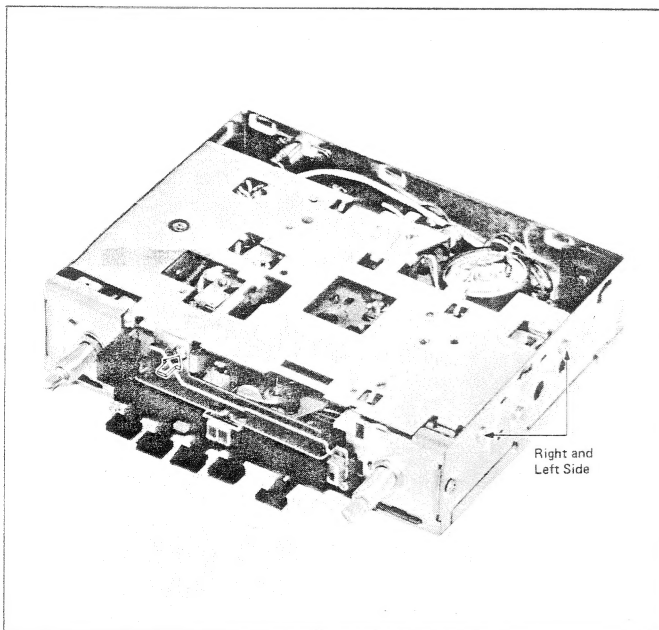

Figure 4-3
- the right, left and front cabinet surfaces. (See Fig. 4-3)